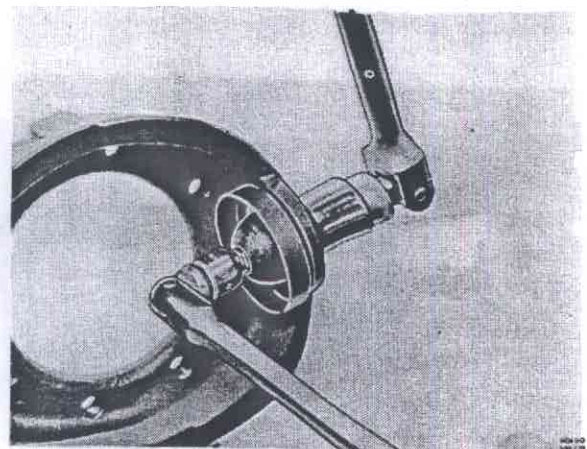

Fig. 63-8. Removing the upper ball shell
3. Replace the upper ball shell and sealing washer by removing the nut (5). If necessary hold against the ball shell with an Allen spanner, see Fig. 63-8.